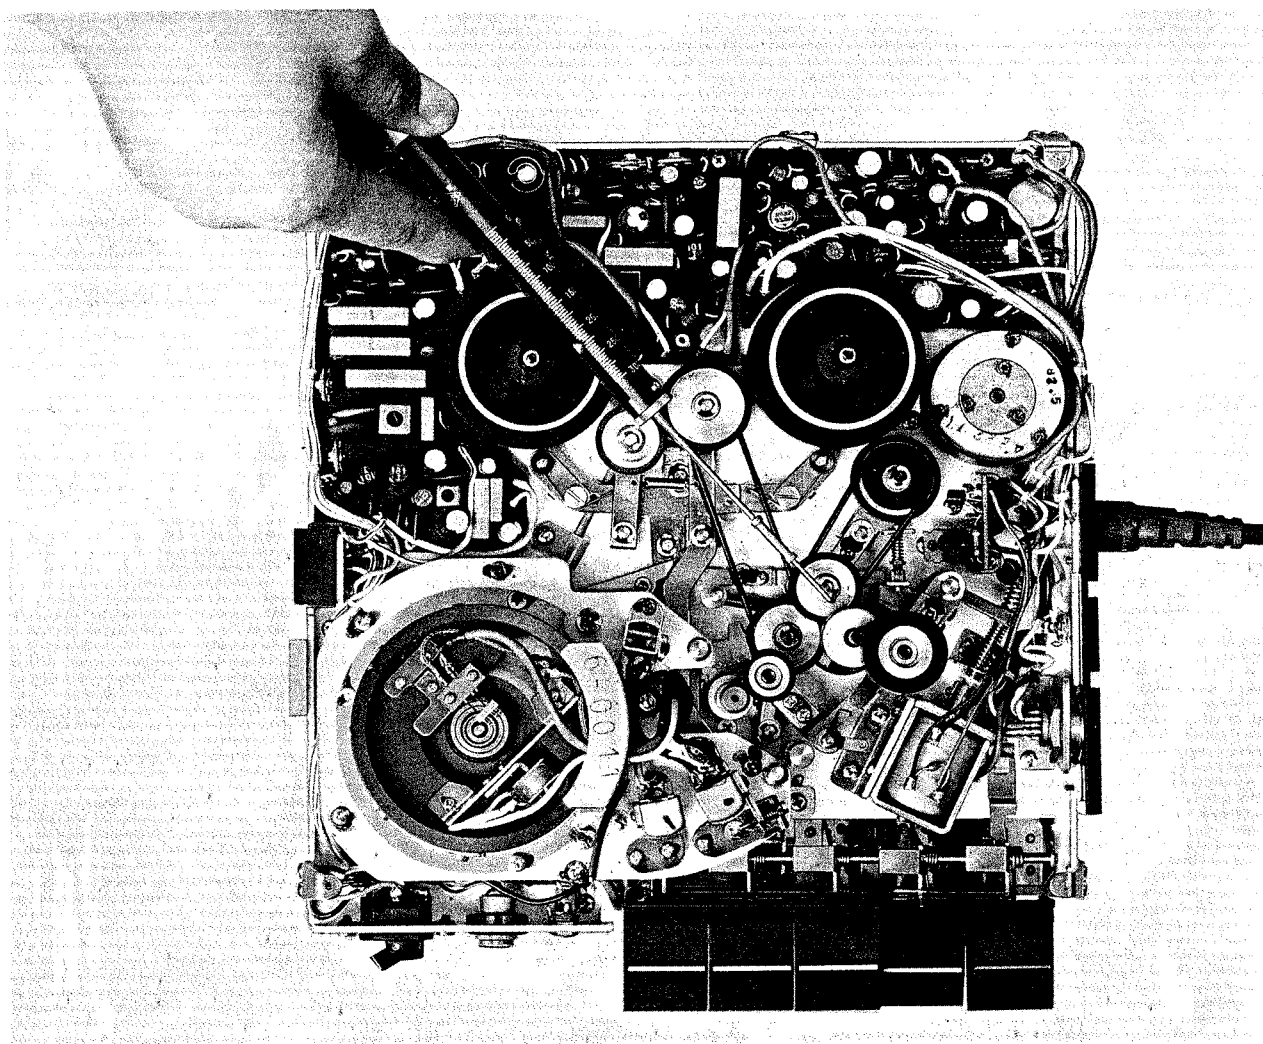

Fig. 1-34 Drive Idler Pressure Measurement
(6) Drive Idler Pressure Adjustment
- a) As shown in fig. 1-34, connect a 0 to 300 gram spring gauge to upper part of drive idler "c" ring and measure drive idler pressure. At playback mode, at the moment the rotating drive idler is stopped, read value on spring gauge. Standard is 200 to 500 grams.